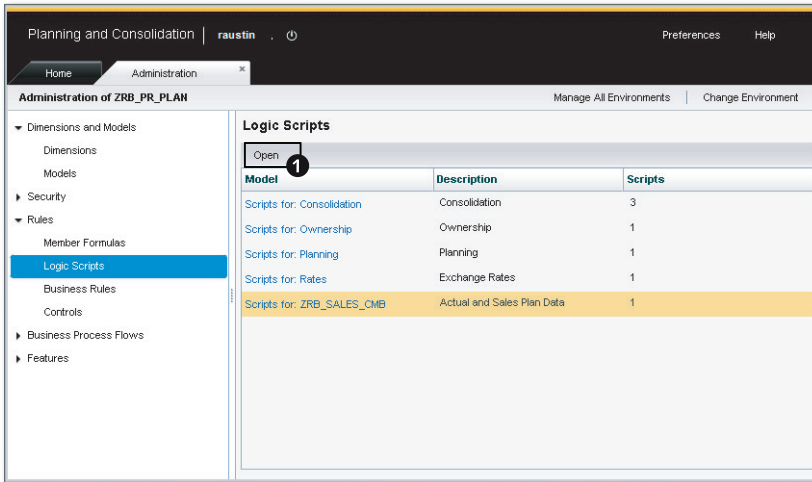
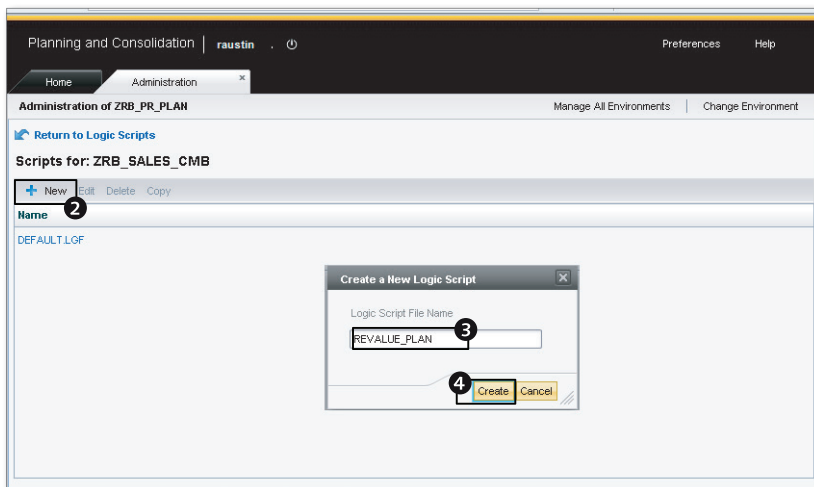

Figure 6.4 Creating Logic Script to Revalue Plan Data—Part A
Figure 6.5 Creating Logic Script to Revalue Plan Data—Part B
- In the ADMINISTRATION workspace, under the RULES domain, select the LOGIC SCRIPTS view. Select the scripts for the ZRB_SALES_CMB model, and click on the OPEN option (Figure 6.4, ❶). This opens the scripts used in the ZRB_SALES_CMB model. Click on NEW to create new logic file (Figure 6.5, ❷).
- In the CREATE A NEW LOGIC SCRIPT dialog box, enter "REVALUE_PLAN" in the LOGIC SCRIPT FILE NAME text box, and click on CREATE (Figure 6.5, ❸ and ❹).